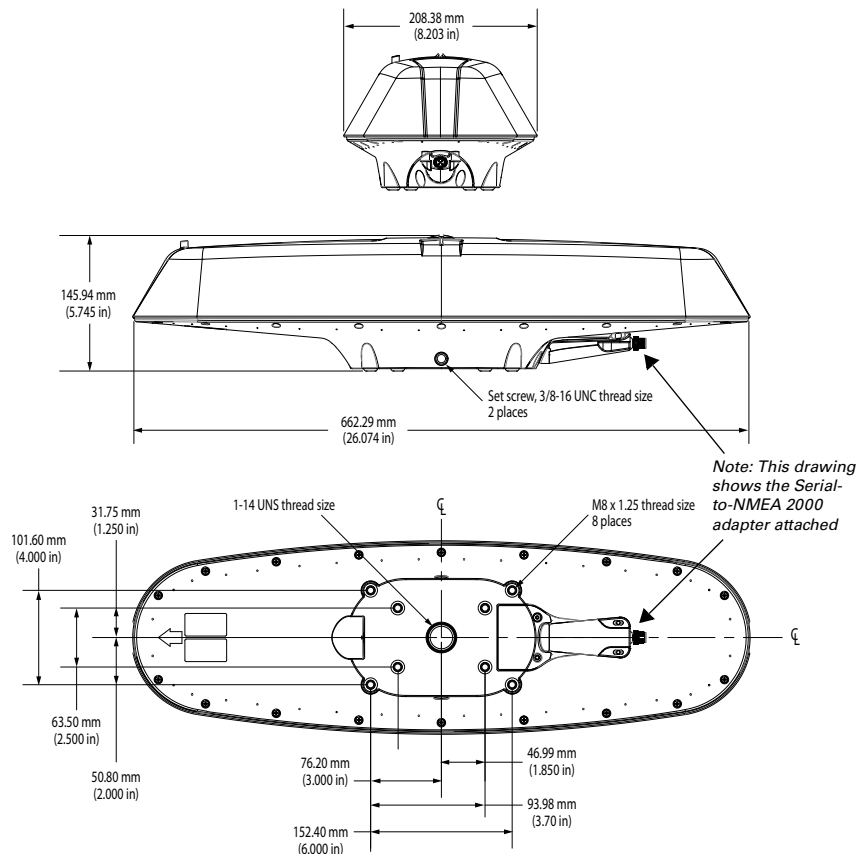

Figure 2-6: V320 dimensions
- Flush mount - The bottom of the V320 contains eight M8-1.25 holes for flush mounting the unit to a flat surface (see Figure 2-6). The eight holes comprise two sets of four holes. The inner four holes are in the same location as the V102, allowing you to use the V320 as a drop-in replacement. The outer four holes provide a wider mounting option.
- Pole mount - The bottom of the V320 contains a mounting plate with a hole (1" thread, 0.9" depth) for easy pole mounting. Hand tighten until snug (do not over-tighten). The set screws on the long sides of the base (see middle drawing in Figure 2-6) allow you to secure the V320 in place (3/16" Allen wrench not included).
Figure 2-6 illustrates the physical dimensions of the V320.
5. Use the full threaded set screws on the long sides of the base (see Figure 2-6 on page 11) to secure the V320 in place (3/16" Allen wrench).